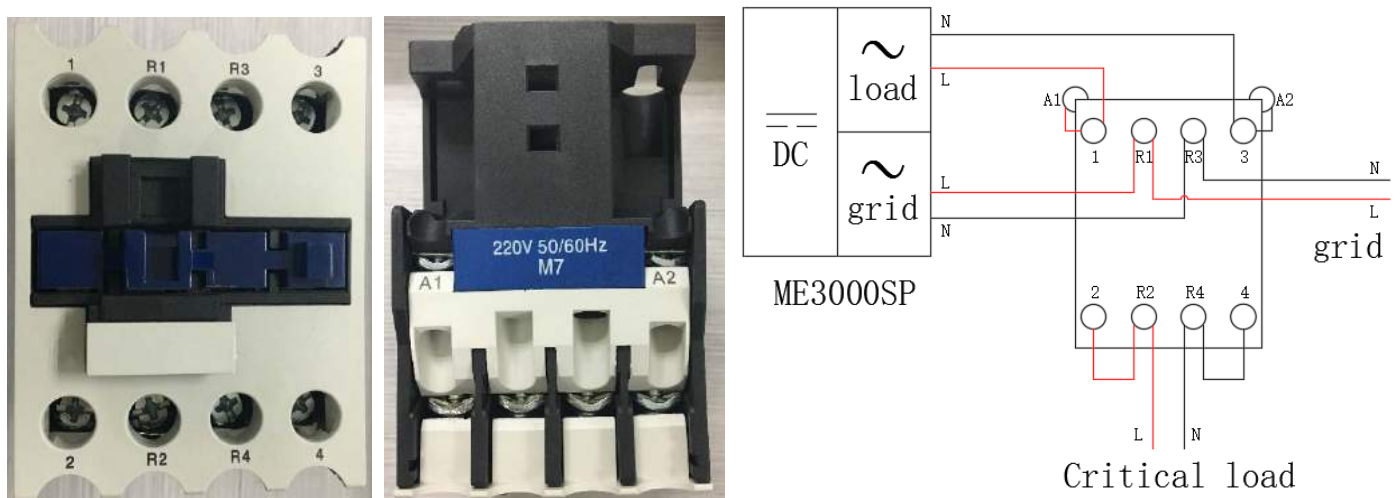

Fig. 12 AC contactor front view, top view, and connection
6. AC contactor is correctly connected (fig. 12);